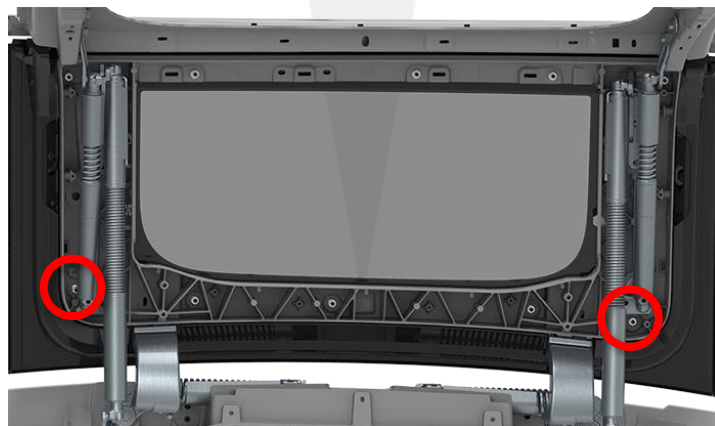

Figure 2
5. Loosen the lower forward and rearward nuts, but do not remove them completely (Figure 2).